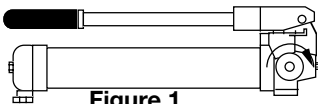

Figure 1
1. Close release valve by turning clockwise, as shown in Figure 1.